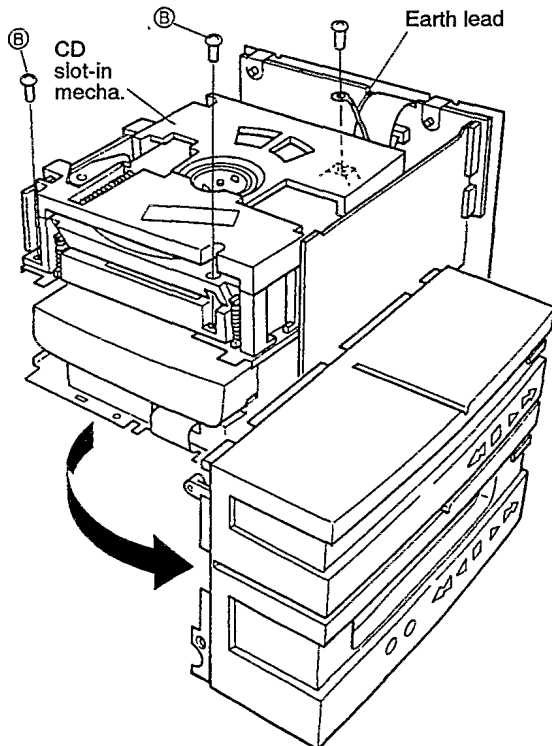

Fig. 5-2
4. Turn the front panel to the right side. (See Fig. 5-2.)
5. Remove two screws (B) which holding the the CD slot-in mecha. and a earth lead (one screw). (See Fig. 5-2.)